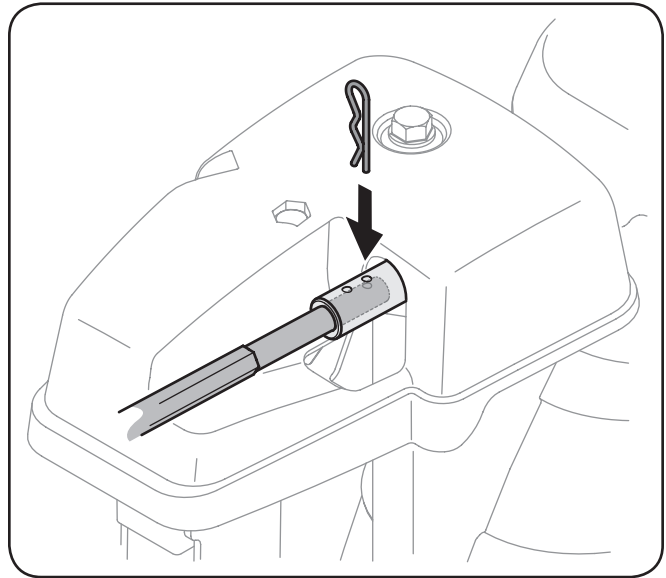

Figure 3-16
7. Push the chute control rod toward the control panel until the hole in the rod lines up with the hole in the chute control input closest to the chute control head and insert the cotter pin. See Figure 3-16.